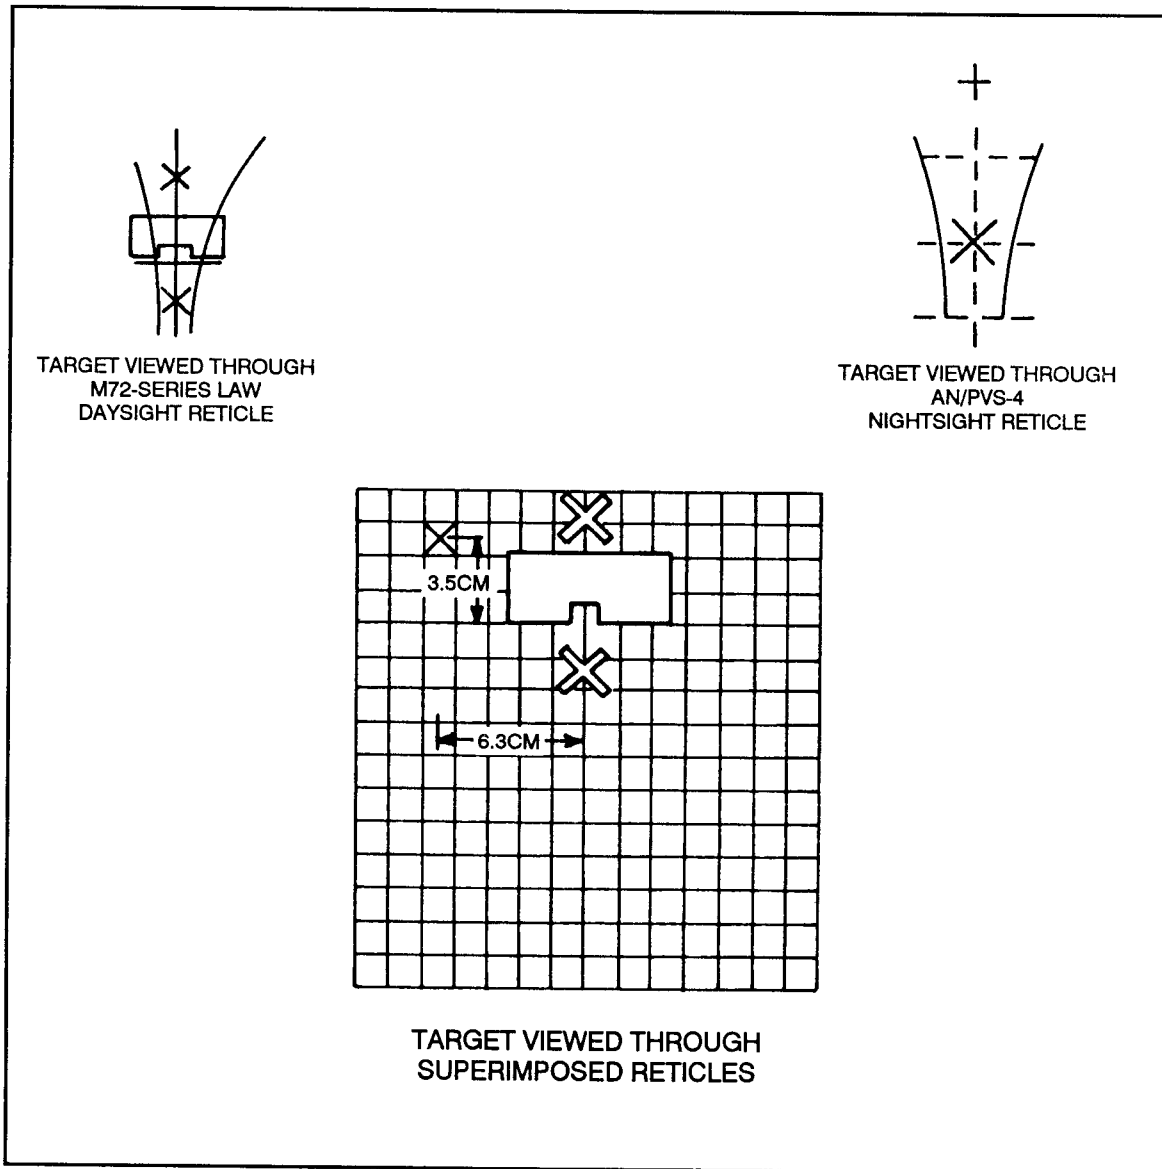

Figure 2-14. M72A1 alignment target for the AN/PVS-4.
(5) Align the nightsight's reticle pattern to the LAW sights only once. After that, you can move the nightsight from LAW to LAW without having to realign it each time (Figure 2-14, page 2-12). To align the sight reticle pattern to the LAW sights, place a target at 25 meters. Install the mounting bracket and sight, and select a stable firing position for the LAW. Turn both the TUBE BRIGHTNESS and RETICLE BRIGHTNESS knobs ON. Align the 200-meter range mark on the daysight with the aiming point on the target. Without moving the LAW, adjust the nightsight reticle so that its 200-meter range mark coincides with an aiming point 6.3 centimeters left and 3.5 centimeters above the target aiming point.